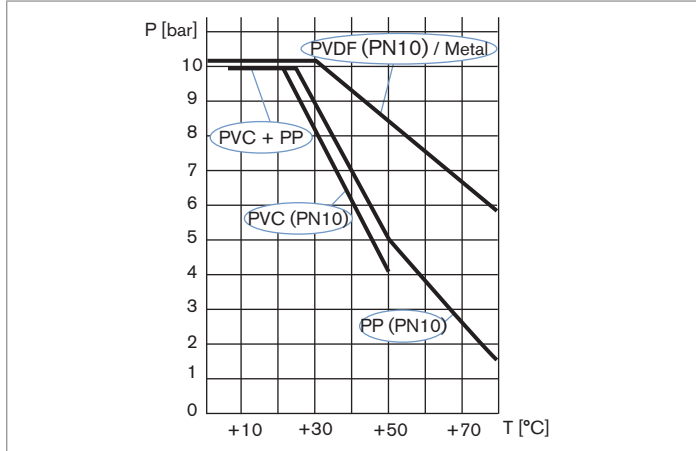
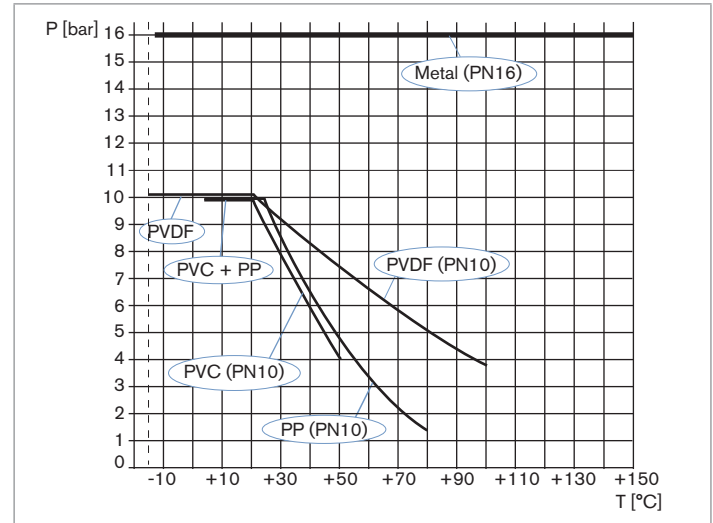

Fig. 5 : Fluid temperature/pressure dependency of the 8041 with PVDF sensor holder in a metal, PVDF, PVC or PP S020 fitting
Fig. 6 : Fluid temperature/pressure dependency of the 8041 with stainless steel sensor holder in a metal, PVDF, PVC or PP S020 fitting
Fluid temperature	The fluid temperature may be restricted by the fluid pressure and the material of the used S020 fitting (see Fig. 5 and Fig. 6). <ul style="list-style-type: none"> ▪ Sensor holder in stainless steel <ul style="list-style-type: none"> ▪ -15...+150 °C ▪ Sensor holder in PVDF <ul style="list-style-type: none"> ▪ 0...+80 °C
Fluid pressure	The fluid pressure may be restricted by the fluid temperature and the material of the used S020 fitting (see Fig. 5 and Fig. 6). <ul style="list-style-type: none"> ▪ Sensor holder in stainless steel <ul style="list-style-type: none"> ▪ PN10 with plastic fitting, PN16 with metal fitting ▪ Sensor holder in PVDF <ul style="list-style-type: none"> ▪ PN10
- Take the fluid temperature/pressure dependency into account according to the nature of the material of the fitting used (see *Fig. 5* and *Fig. 6*).